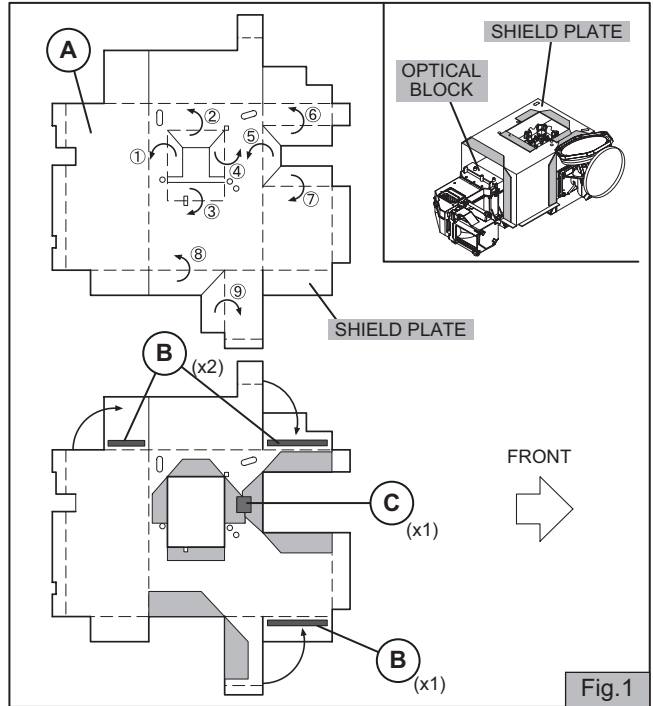

Fig.1
- (3) Attach the double-faced tapes [B] as shown in Fig.1.
- (4) Stick the tape [C] as shown in Fig.1.
- (5) Make copper film case to be SHIELD PLATE (box-shape).